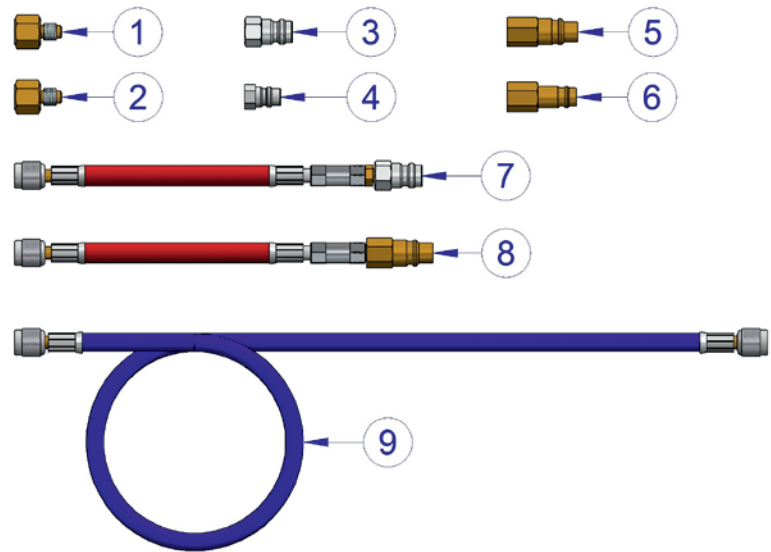
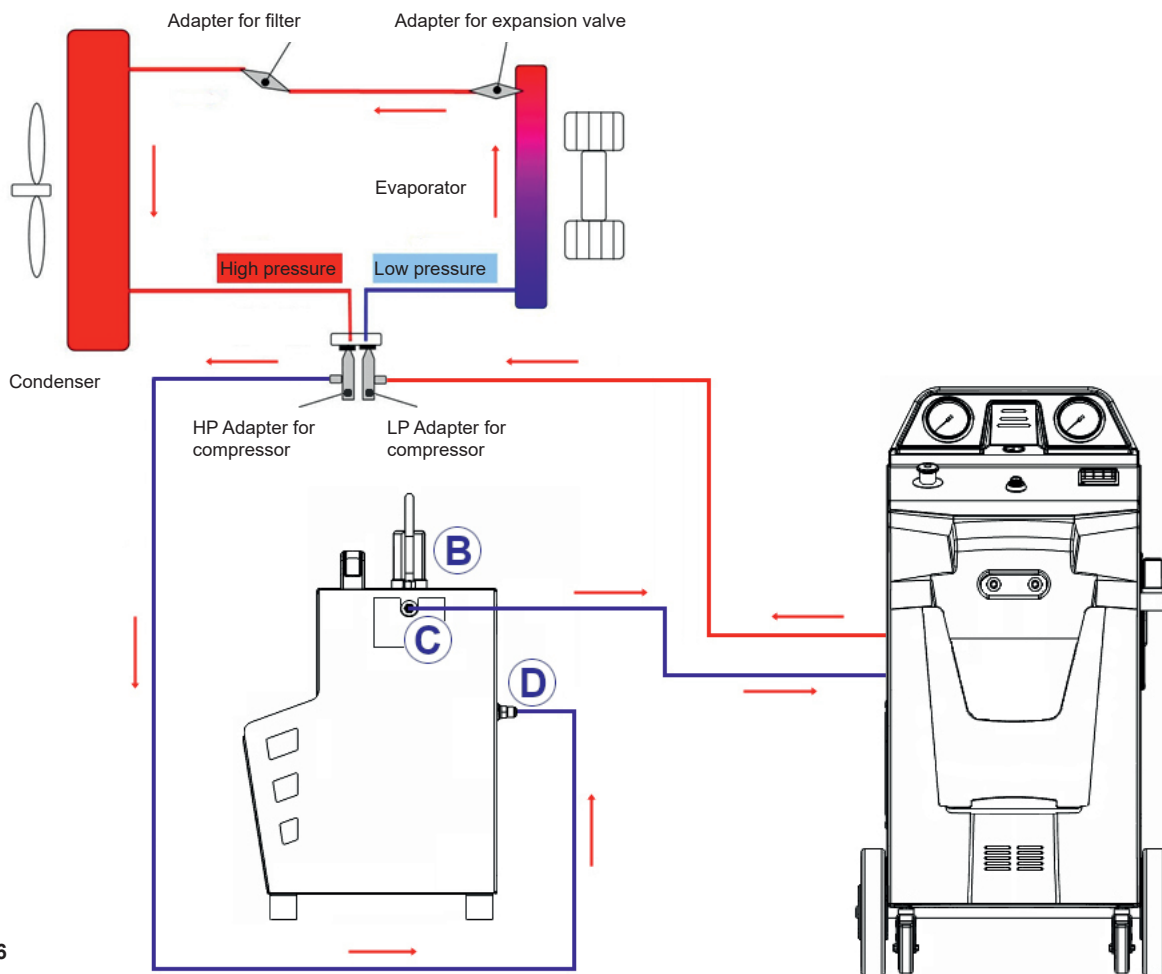
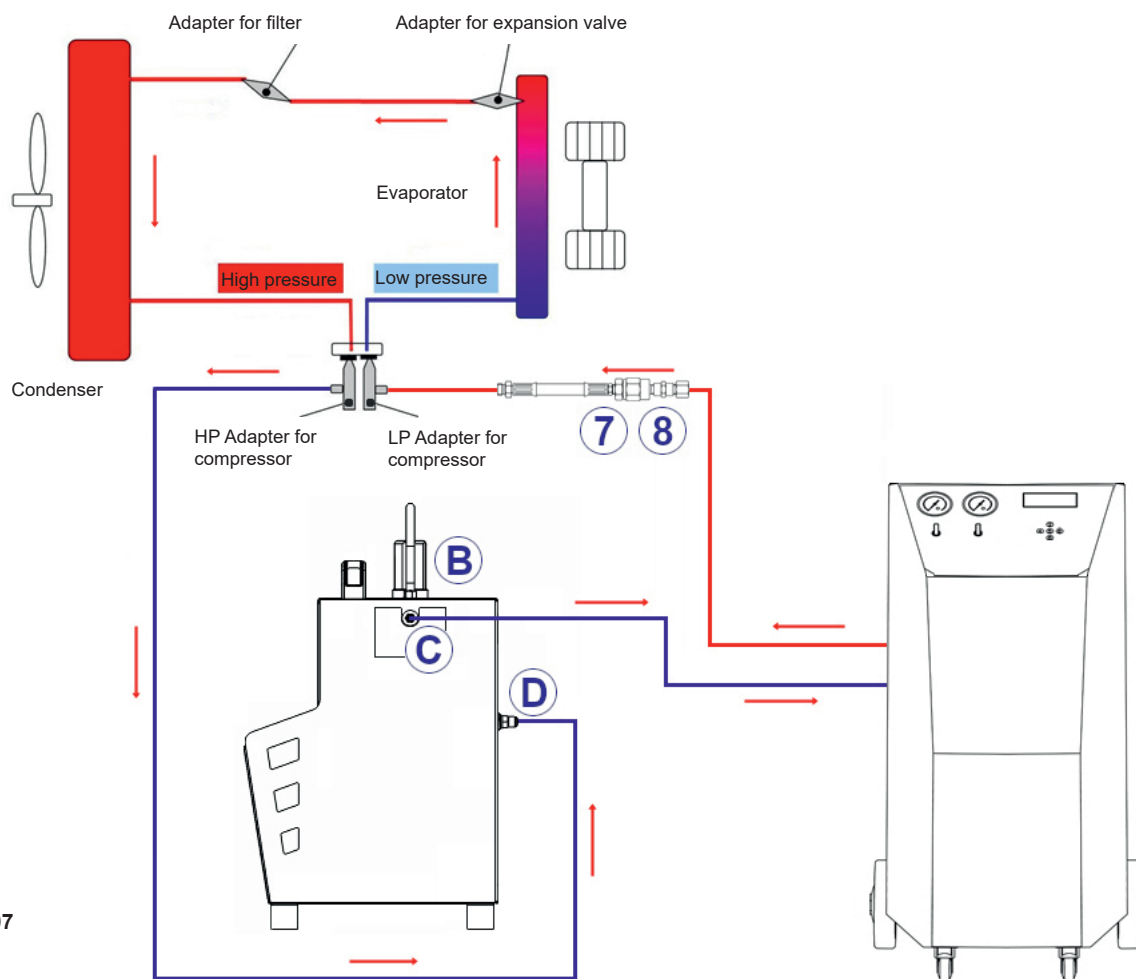

fig. 002
fig. 006
fig. 007
1. Connect the **red service hose (high pressure)** of the A/C service unit to the manufacturer-specific adapter of the **blue low-pressure side** of the A/C system compressor *fig. 006*.
2. Connect the **blue service hose (low pressure)** of the A/C service unit to the OUT port **C** *fig. 006* of the flushing kit.
3. Connect the blue hose from the supplied flushing kit **9** *fig. 002* to the IN port **D** *fig. 006* of the flushing kit.
4. Connect the other end of the **blue hose 9** *fig. 002* from the flushing kit to the manufacturer-specific adapter of the **red high-pressure side** of the A/C system compressor port.
6. Check the quality of the refrigerant in the transparent bowl for filter stage **B** *fig. 006* during the flushing operation.
8. At the end of the flushing operation you can remove and dispose of possible solid particle residues from the transparent bowl for filter stage **B** *fig. 006*.
The system is preset for 1/4 SAE connections. If the A/C service unit has 3/8" SAE connections, use the adapters **1** and **2** *fig. 002* from the supplied flushing kit.
1. Connect the adapter (7) or (8) *fig. 002* from the supplied flushing kit on the red service hose (high pressure).
3. Connect the **blue service hose (low pressure)** of the A/C service unit to the OUT port (C) *fig. 007* of the flushing kit.
4. Connect the blue hose from the supplied flushing kit (9) *fig. 002* to the IN port (D) *fig. 006* of the flushing kit.
5. Connect the other end of the **blue hose (9)** *fig. 002* from the flushing kit to the manufacturer-specific adapter of the **red high-pressure side** of the A/C system compressor port.
7. Check the quality of the refrigerant in the transparent bowl for filter stage (B) *fig. 006* *fig. 007* during the flushing operation.
9. At the end of the flushing operation you can remove and dispose of possible solid particle residues from the transparent bowl for filter stage (B) *fig. 007*.